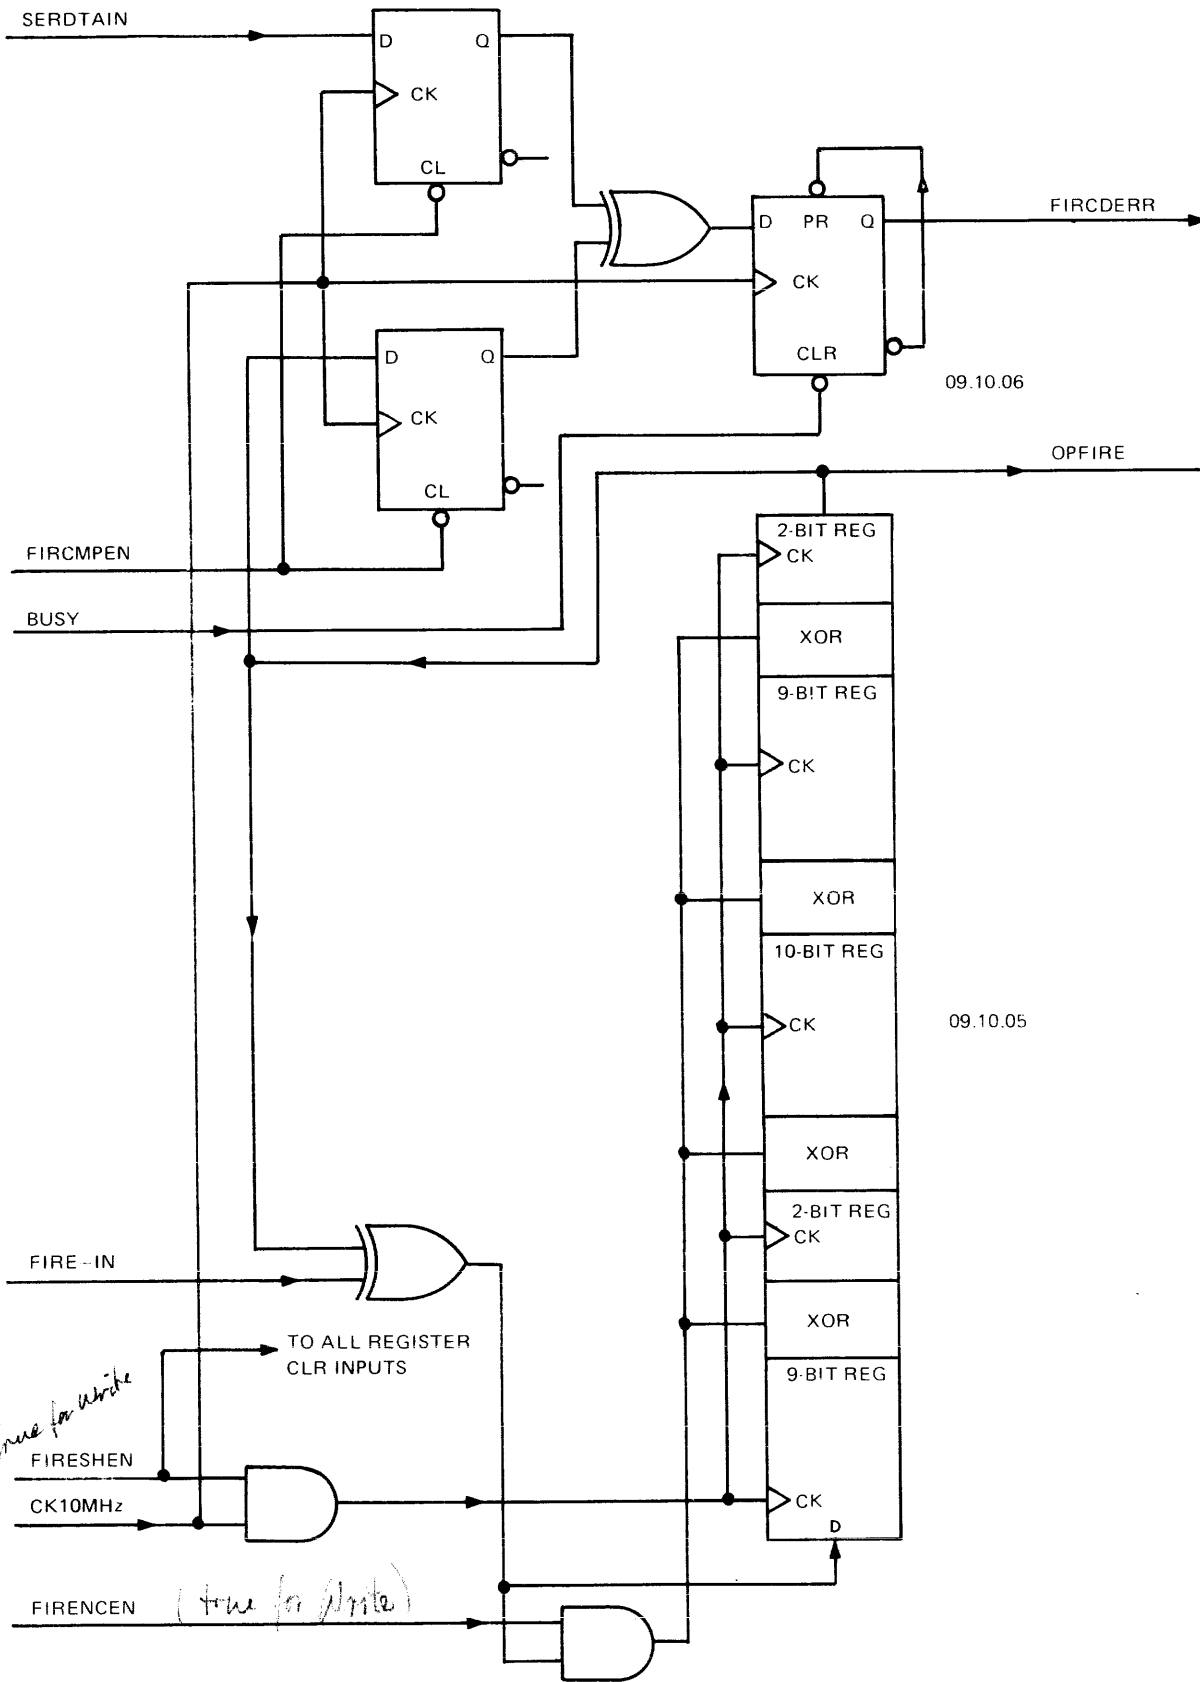

Figure 4-16. Firecode Block Diagram (206)
- 3) During READ Data, FIRINBUF is derived from SRDTDLYD (serial data delayed). This is READ data from the drive. (See the block diagram in figure 4-16).